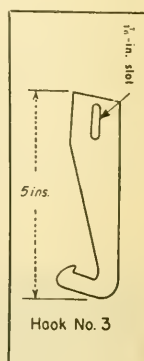
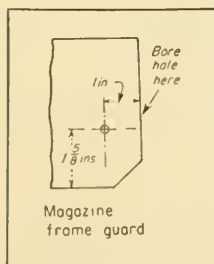

Fig. 3
Fig. 4
2. Make another hook from a 5-in. length of  $1\frac{1}{2}$ -in. cold-rolled flat-steel stock  $\frac{1}{2}$  in. thick. Slot one end, and cut the other end to form a hook as shown in Fig. 3. Drill a hole with a No. 29 drill in the magazine-frame guard as shown in Fig. 4, and tap the hole with a No. 8-32 tap.